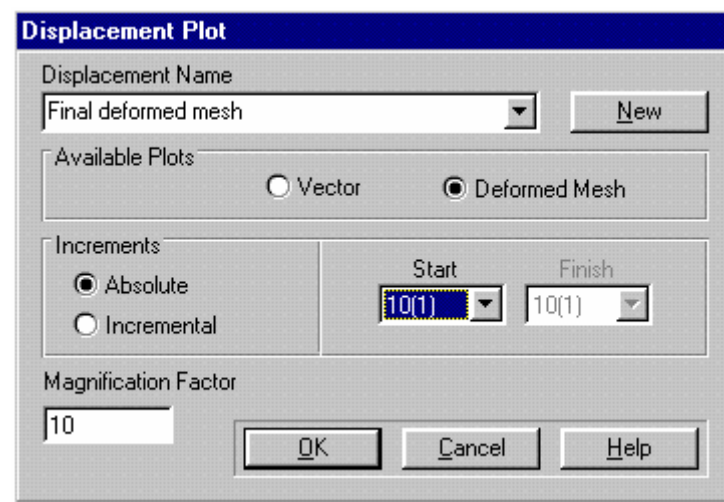

Figure 4-29: Setting Up A Displaced Plot
Step 5 Enter a Magnification Factor of 10. The Displacement Plot dialogue box should now look similar to Figure 4-29.